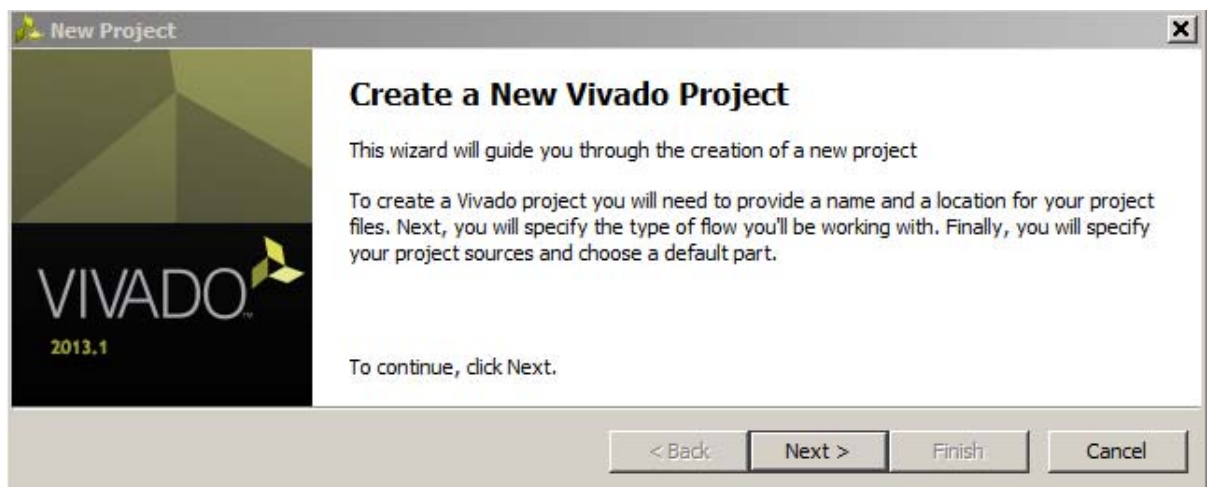

Figure 18: Create New Project Wizard
5. In the New Project window, click **Next** (Figure 18).